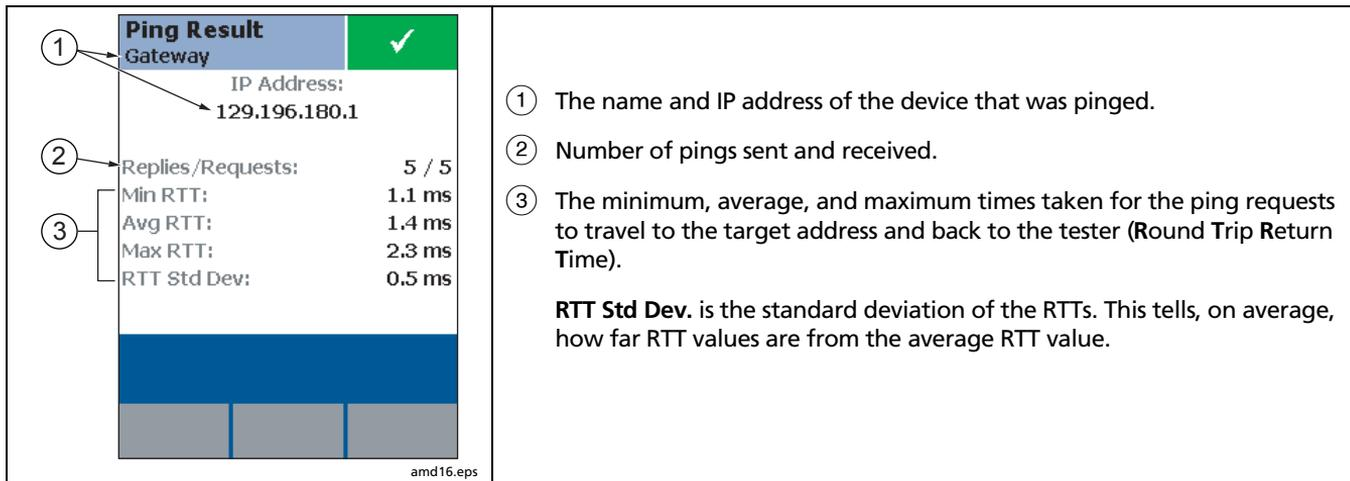

Figure 9-6. Ping Results Screen
<p>④ Select Negotiation Details to see details. See Figure 9-5.</p> <p>On the Negotiation Details screen, Yes for Pin Reversal indicates a reversed pair on the link, (such as wires 1 and 2 crossed). Run a wire map test on the link to check the wiring.</p> <p>⑤ Select DTX Address to see details, including the subnet mask.</p> <p>⑥ Network addresses used during the test:</p> <ul style="list-style-type: none"> • Gateway: Address of the network device that joins networks using different protocols or passes data between networks. • DHCP Server: Dynamic Host Configuration Protocol server address. Shown only in DHCP mode. • DNS Server: Domain Name System server address. In DHCP mode, the addresses above show as 0.0.0.0 if the DHCP server does not provide them. <p>To see ping results for the above devices, highlight a device; then press (ENTER). See Figure 9-6.</p>	<p>The checkmarks and Xs indicate how many replies the tester received to its three pings:</p> <p> : Green: Ping replies received for all requests.</p> <p> : Orange: At least one ping reply received.</p> <p> : No ping replies received, indicating a problem with the connection.</p> <p>⑦ <Target Address name>: appears if you use (F3) Ping to ping a device. See "Pinging Network Devices" on page 9-11.</p> <p>⑧ See "Monitoring Network Traffic" on page 9-12 and "Blinking a Port Light" on page 9-14.</p> <p>⑨ Press (F3) Ping to ping devices. See "Entering Ping Addresses" on page 9-11 and "Pinging Network Devices" on page 9-11.</p>
- 6 To see ping details (Figure 9-6), highlight a device; then press **ENTER**.